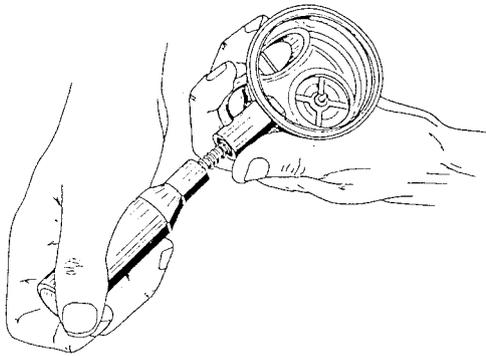
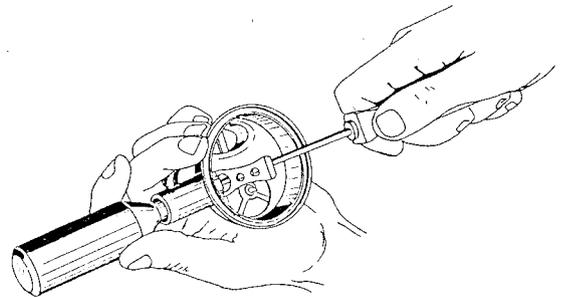

FIG. 31
FIG. 32
1. Carefully install a new exhaust valve (40) by pulling the stem through the center hole of the exhaust valve seat until it locks in place. The valve stem should not be pulled excessively as damage to the valve may occur. Using scissors, cut approximately 1/4" off of the end of the valve stem.
2. Press poppet seat (47) into poppet body (30).
3. Place poppet body (30) onto tool (B6).
4. Place spring (31) over poppet body.
5. Insert poppet body and spring into the second stage inlet. Align the square of the poppet stem with the square hole of the case and press inward to compress the spring (Fig. 31).
6. Place the demand lever (35) into the second stage case groove.
7. Place the demand lever washer (34) over the second stage poppet stem and on top of the demand lever.
8. Place a new demand lever lock nut (33) on the second stage poppet stem and tighten the lock nut, with tool (B12), until approximately 1/16" of the poppet stem is protruding from the nut (Fig 32).